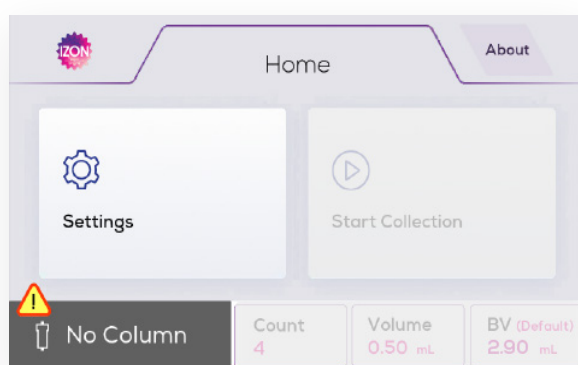

Figure 8: Home screen when no column is attached to the AFC.
3. Before a column has been inserted or if a column without an RFID tag has been inserted, the lighting will be white, and the home screen will display "No Column" as shown in Figure 8.